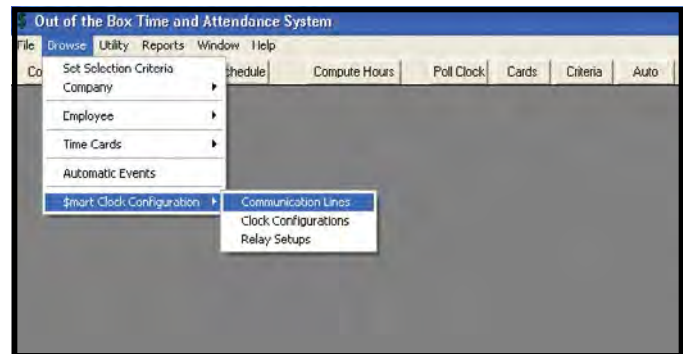

Figure 15. Out-of-the-Box™, Communication Lines
- Open the Out-of-the-Box™ program and click “Browse” > “Smart Clock Configuration” > “Communication Lines” (see Figure 15).